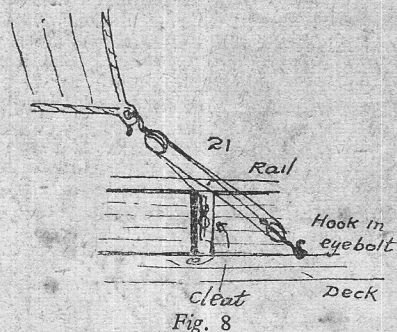

Fig. 8
**Fore and Main Sheets 9 and 21.** These went to the lee side. Gun or luff purchases were hooked to eyebolts in deck, the double block hooked into cringle in clew of sail, and was unhooked when sail was dipped and the block on opposite side took its place (Fig. 8).